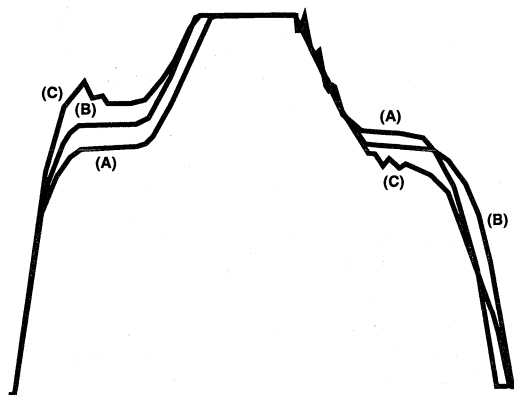

FIGURE 13. CURVES SHOWING THE INCREASING EFFECT OF
Figures 13(A), (B), and (C) show the increasing effect of gate voltage propagation. The gate waveform is the only one shown because the drain is not affected so drastically. This is true because some cells are overdriven, offsetting the effect of the starved cells. Care must be exercised when operating with large gate effects similar to those of Figure 13(C).